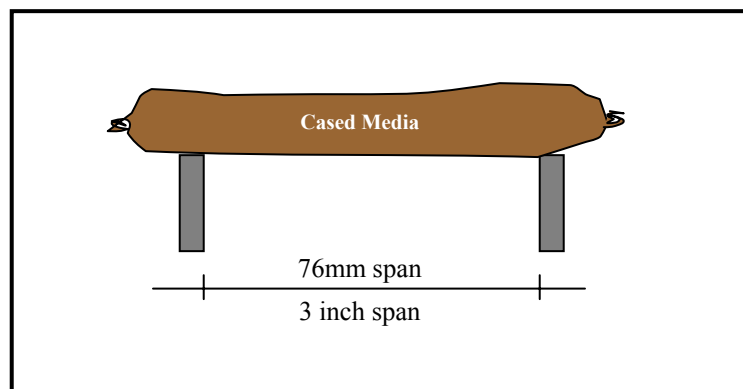

Figure 1
- Test specimens must be able to span clear distance of 76mm (3-in.) for minimum of 15 seconds when tested at room temperature (setup illustrated in Figure 1).